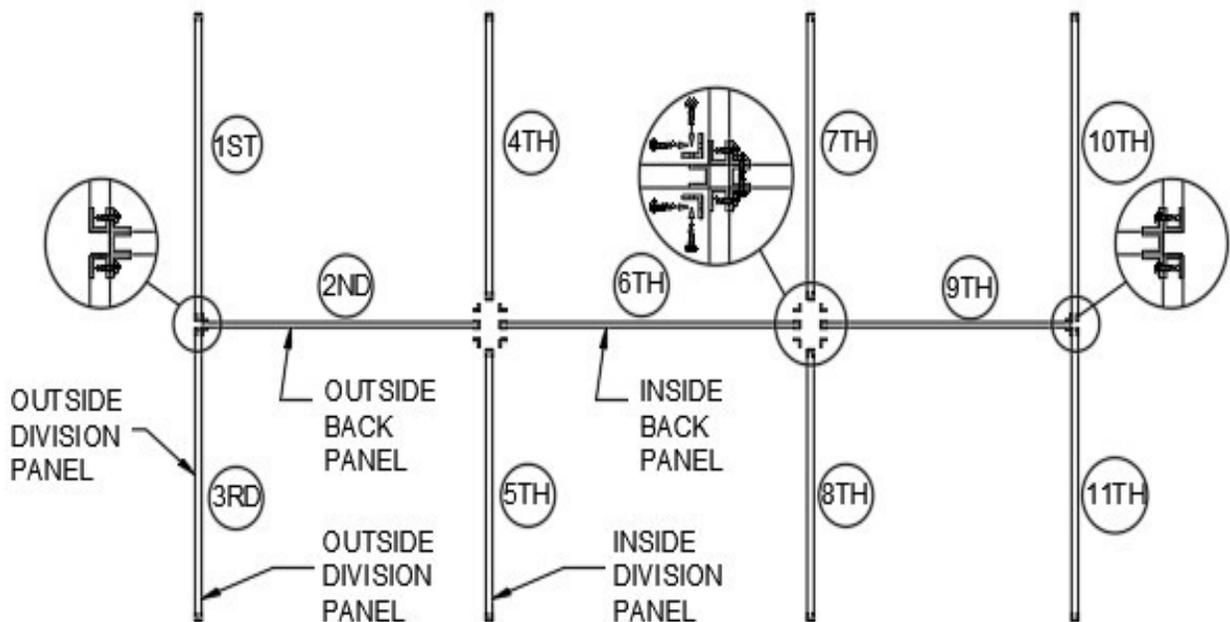
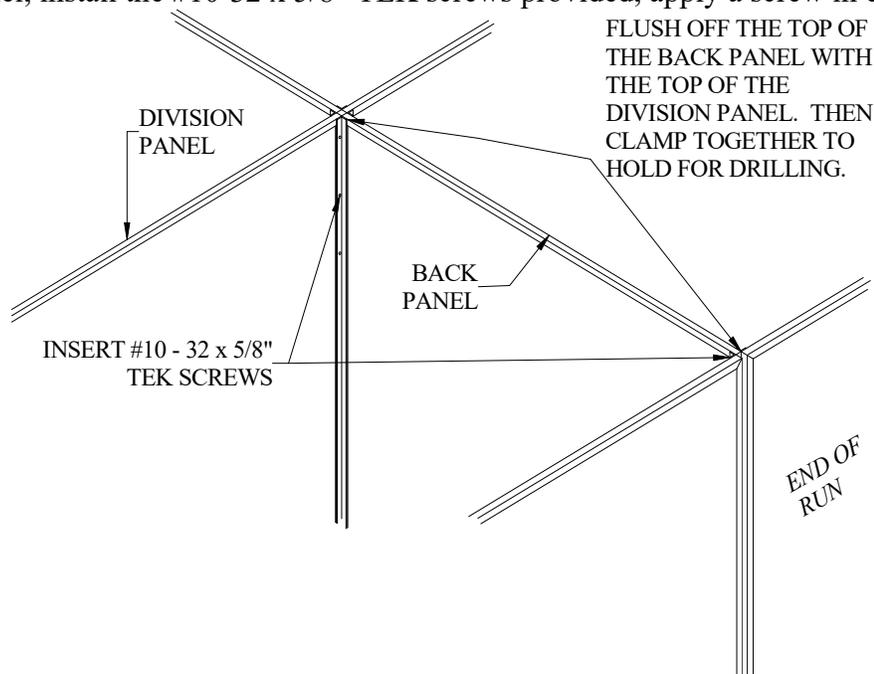

Figure 7A
Figure 8
- Install supplied full-length Aluminum Angle (**Panel Attachment Flange**) flush with top and side edges of Back Panel. Using the pre-punched holes in the side flange of the back panel, install the #10-32 x 5/8” TEK screws provided, apply a screw in every hole. See Figure 7A-B.
- Starting from the point you selected in step C-1 place the first “outside division panel” on the corresponding “Sanislope T”. See Figure 7A for the sequence in which to assemble the panels. Orient the first specified “back panel” against the division panel as shown in the exploded view of Figure 7A. **Note:** If your back panels have “Kennel Doors”, for appearance sake you may want to locate them all on the same side of the run.
8. With the tops of the back and division panels aligned and the mating edges of the panels pulled tightly together, as shown in Figure 8. Using the pre-punched holes in the side flange of the back panel, install the #10-32 x 5/8" TEK screws provided, apply a screw in every hole.
- Repeat steps C-1 through C-2 to assemble the next division panel to the same back panel in the series opposite of the one just assembled as shown in Figure 7A.
Align the next division panel (4th on Figure 7A) as shown so that the edge of the flange on the division panel lines up with the inside edge of the aluminum frame of the back panel just assembled. With the tops of the two panels aligned and the mating edges of the panels pulled tightly together, as shown in Figure 8, and using the pre-punched holes in the side flange of the back panel as a template, drill an 11/64" hole into the division panel through all holes in the flange. Using the #10-32 x 5/8" TEK screws provided, apply a screw in every hole drilled as you go.
5. Repeat steps D-1 through D-3 for all remaining division panels following the same sequence used to assemble the panels as shown in Figure 7A. Continue the leveling process for all runs and or banks of runs.